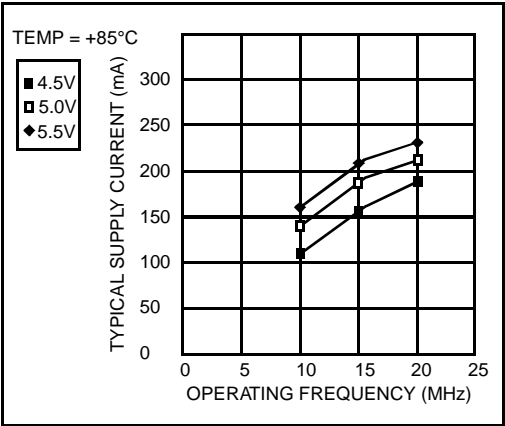
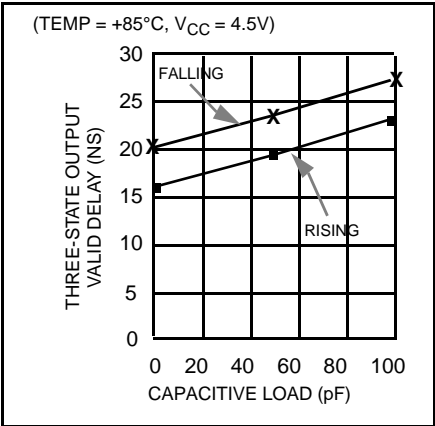

Figure 8. Typical Current vs. Frequency (Hot Temp)
Figure 9. Capacitive Derating Curve
For a given output current ( $I_{OL}$ ) the curve in Figure 8 shows the worst case output low voltage ( $V_{OL}$ ). Figure 9 shows the typical capacitive derating curve for the 80960SA measured from 1.5V on the system clock (CLK) to 0.8V on the falling edge and 2.0V on the rising edge of the bus address/data (AD) signals.